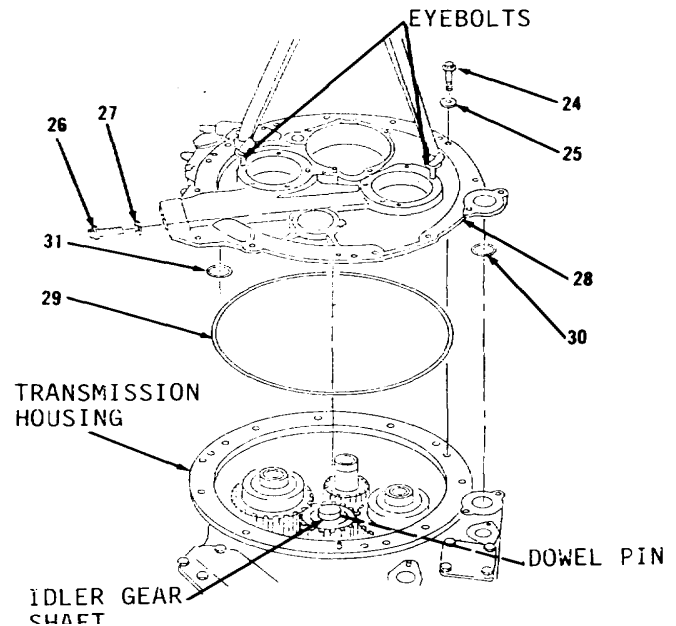

Figure 14-27.
48. Install two 3/8-16NC forged eyebolts in cover (28, Figure 14-27).
50. Install new preformed packings (31, 29 and 30) on cover (28).
51. Install cover (28) on transmission housing.